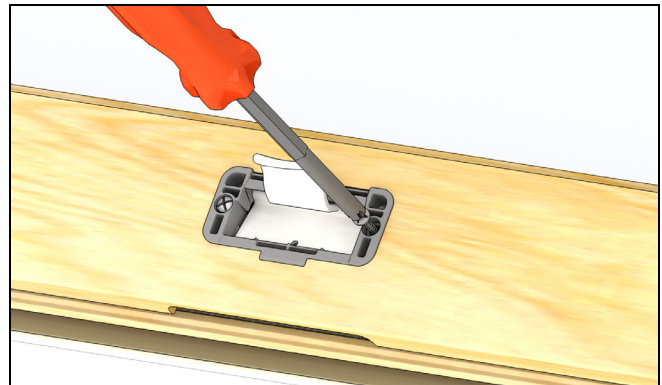

Figure 83
3. Remove the screws from the housing. See Figure 83.